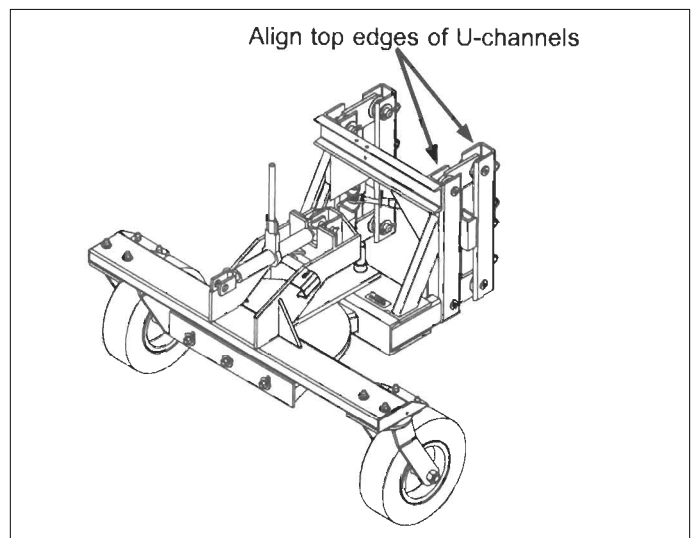

Figure 1
3. Adjust the loader arms so the tops of the U-channels on the sweeper and the tops of the U-channels on the loader arms are even (figure 1).